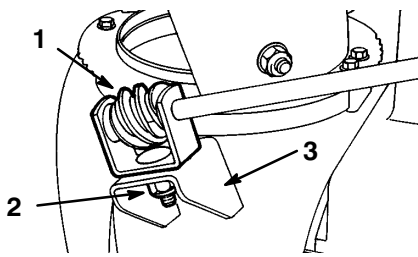

Figure 11
3. Loosely mount the worm gear and bracket to the mounting flange with a bolt, a pyramidal washer, and a locknut (Fig. 11).
4. Slide the worm gear into the teeth of the chute retaining ring and tighten the locknut (Fig. 11).